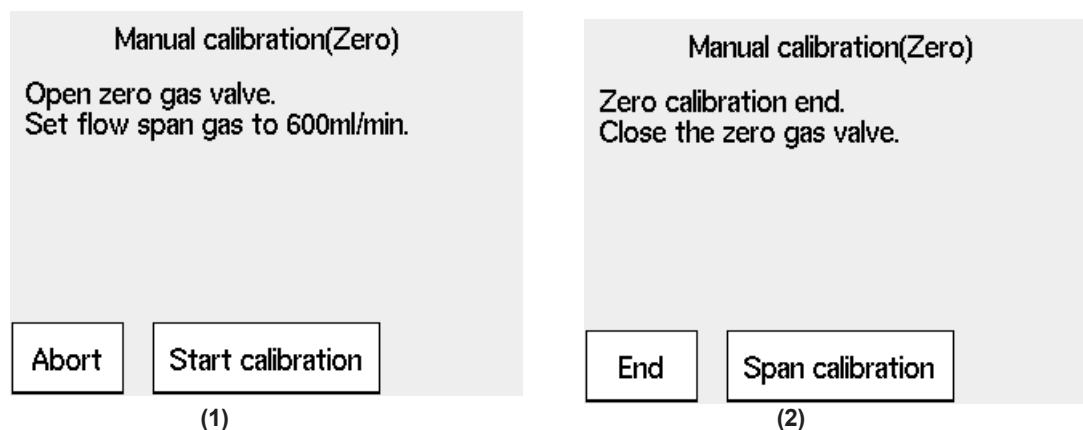

Figure 9.32 Zero Gas Manual calibration
- (1) When the display shown in Figure 9.32 (1) appears during calibration, open the zero gas flow setting valve of the flow setting unit and adjust the flow rate to 600 ± 60 ml/min. To rotate the valve shaft, if the valve has a lock nut loosen the lock nut and slowly turn it counterclockwise. To check the flow rate, monitor the calibration gas flowmeter. If the sample gas pressure is extremely high, adjust the sample gas pressure to obtain pressures (listed in Table 9.10) $\pm 10\%$.
- (2) Adjust the flow rate and select "Valve opened" from the Manual calibration display. Check the Trend graph display to see that the measured value is stabilized. Then press the [Enter] key. The Manual calibration display shown in Figure 9.32 (2) appears.